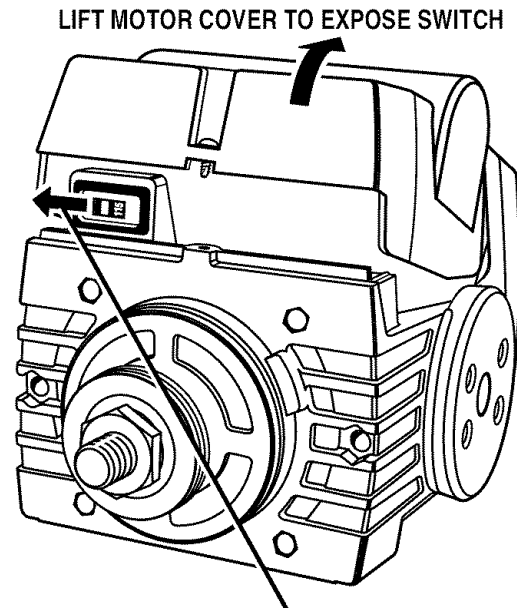

Fig. 3
- Use a small screwdriver to slide the dual voltage switch to the 240V position. See Figures 3 and 4.